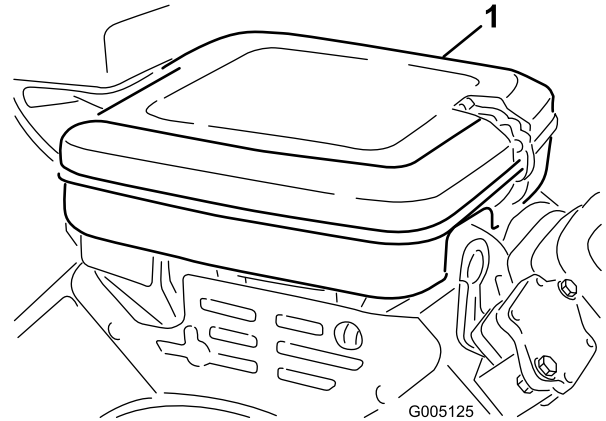

Figure 32
1. Release the locking clips and remove the air cleaner cover (Figure 32). Clean the cover thoroughly.